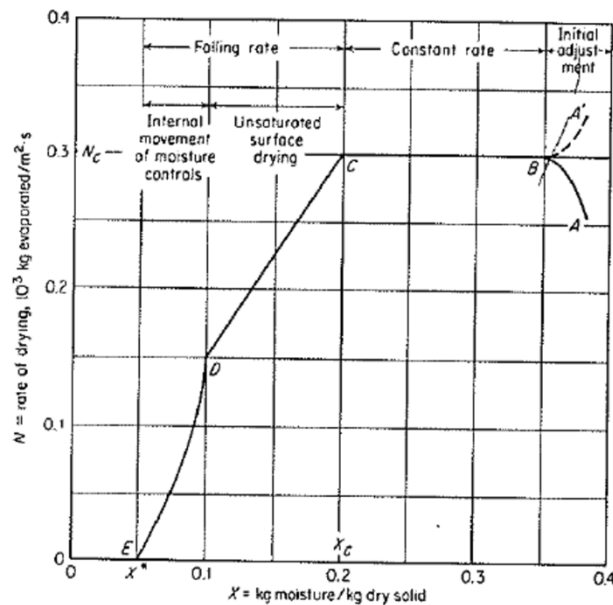

Figure 12.10 Typical rate-of-drying curve, constant drying conditions.
- b. *Special case.* N is linear in X , as in the region BC of Fig. 12.10. In this case,
Frequently the entire falling-rate curve can be taken as a straight line between points *C* and *E* (Fig. 12.10). It is often assumed to be so for lack of more detailed data. In this case
Illustration 12.3 A batch of the solid for which Fig. 12.10 is the drying curve is to be dried from 25 to 6% moisture under conditions identical to those for which the figure applies. The initial weight of the wet solid is 160 kg, and the drying surface is 1 m²/40 kg dry weight. Determine the time for drying.
SOLUTION The total weight of the batch is unimportant. $S_s/A = 40$. At 25% moisture, $X_1 = 0.25/(1 - 0.25) = 0.333$ kg moisture/kg dry solid. At 6% moisture, $X_2 = 0.06/(1 - 0.06) = 0.064$ kg moisture/kg dry solid. Inspection of Fig. 12.10 shows that both constant- and falling-rate periods are involved. The limits of moisture content in the equations for the different periods will be chosen accordingly.
Falling-rate period This is from $X_c = 0.200$ to $X_2 = 0.064$. Use Eq. (12.3). The following table is prepared from data of Fig. 12.10:
As an approximation, the falling rate can be represented by a straight line from C to E (Fig. 12.10). The corresponding falling-rate time is, by Eq. (12.9),